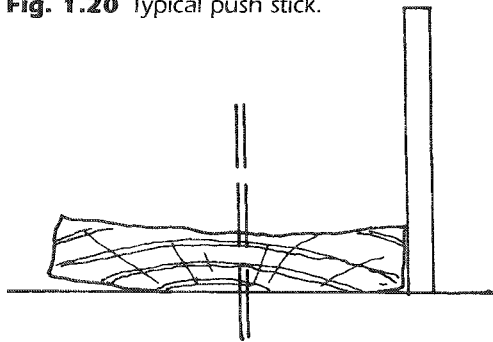

Fig. 1.21 Flat cutting.
- (a) Always keep the round side down. This will allow the cut pieces to fall away from the blade and prevent binding (**Fig. 1.21**). *Note* It is important that an even and constant feeding pressure is exerted at all times to prevent any wobble on the round.